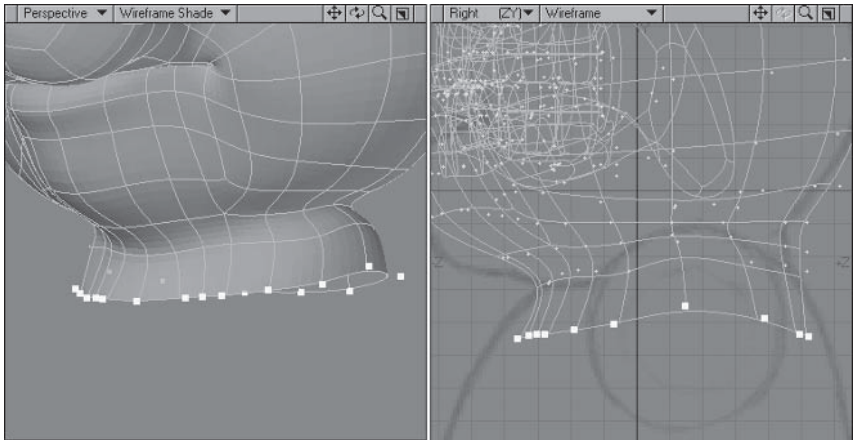

Figure 5.4-2. Starting the torso.
- 2. **Extend** again, **Move** the points down to the middle of the arm and, from the Right view, **Stretch** horizontally to **112%** and adjust to match Figure 5.4-2.